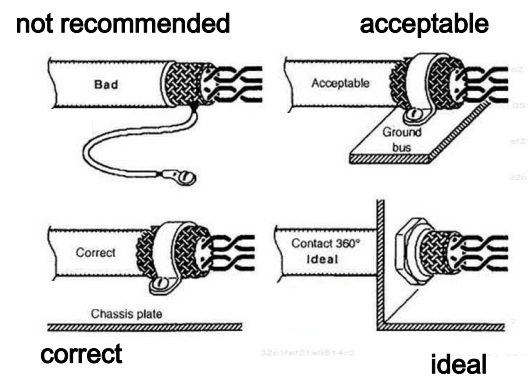

Fig. 19 Recommendation for Grounding Method
1. shielding must be equipped to the power cable or temperature control cable. Also, the shielding must be grounded (refer to Fig. 19).